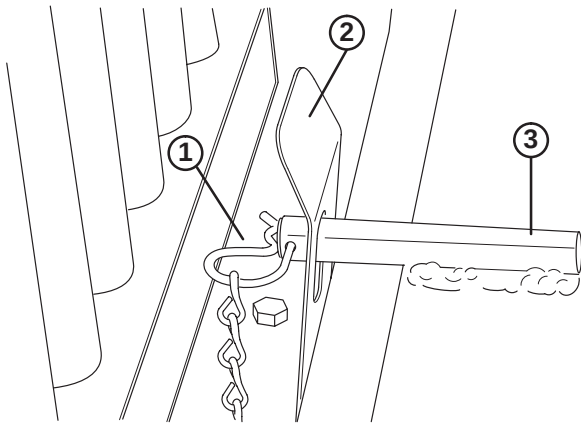

Figure 4
3. Remove hair pin cotter and pull back on locking spring flap to pivot mounting plate forward (Fig. 4).
- 2. Remove hair pin cotter and pull back on locking spring flap to pivot mounting plate forward (Fig. 4).